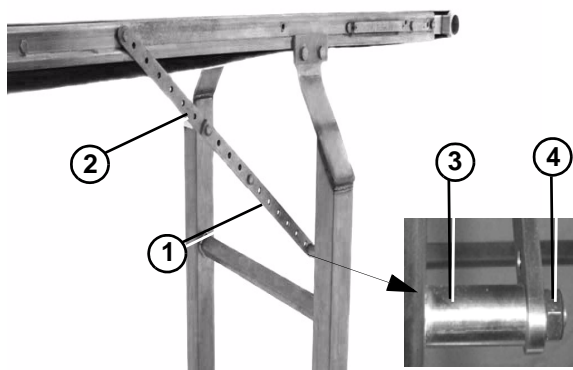

Figure 15
1. Install the lower brace (**Figure 15, item 1**) of the diagonal brace (**Figure 15, item 2**) on the stud (**Figure 15, item 3**) and secure it with an M8 acorn nut (**Figure 15, item 4**).